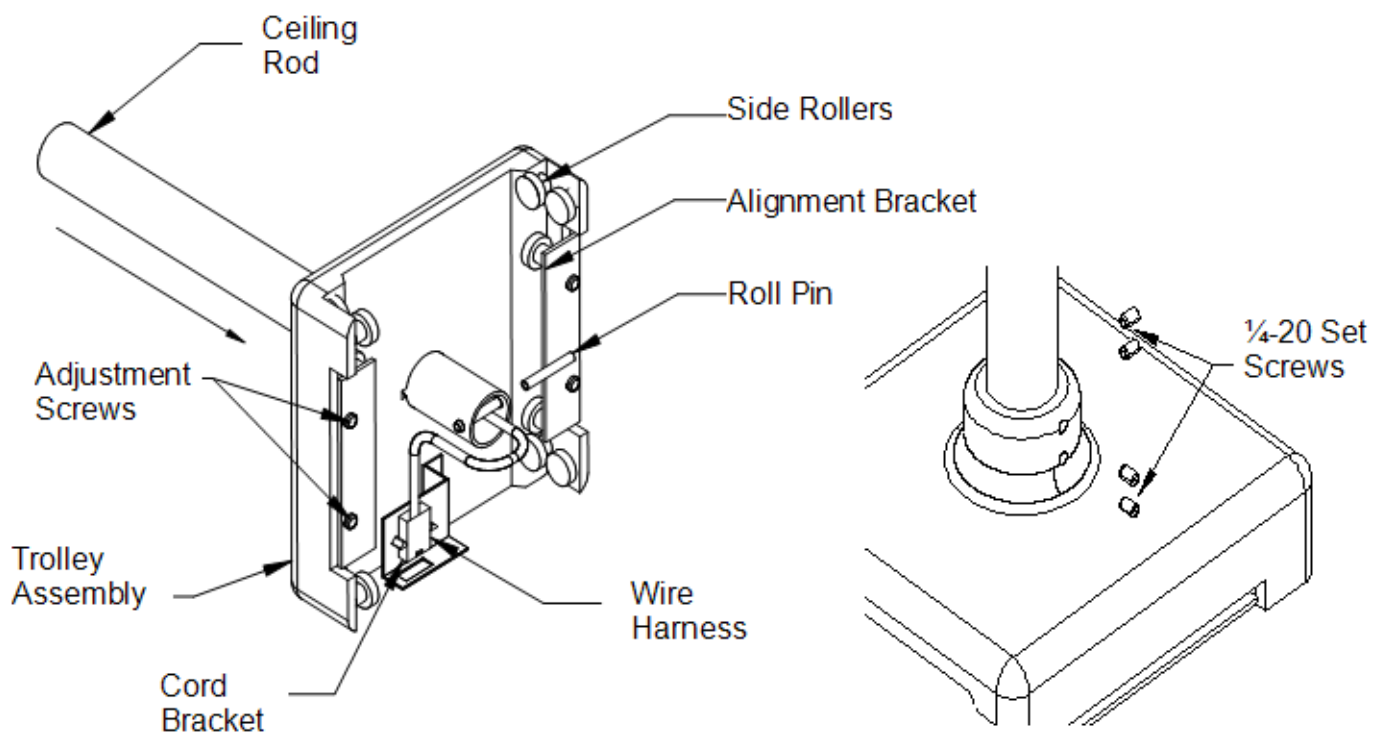
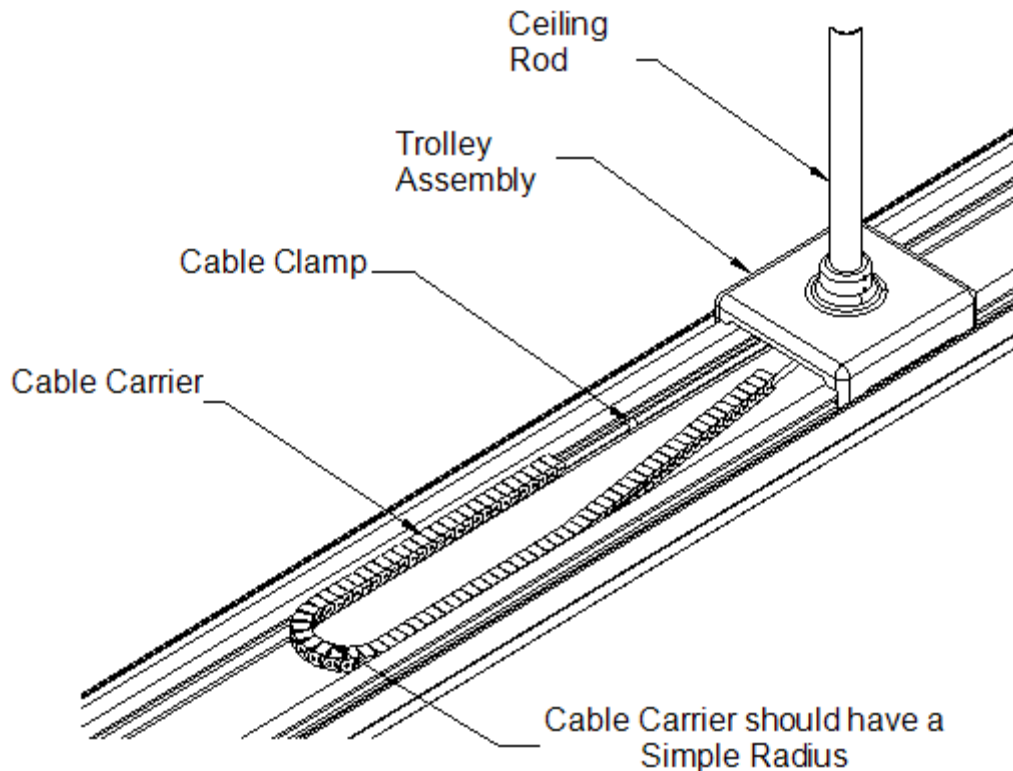

Figure 31. Ceiling Rod and Roll Pin Installation
Figure 32. Power Cord Placement
- Remove the ¼" by 2" roll pin taped down in the trolley assembly. Insert the pin into the ceiling rod end that has one hole in both walls. The pin should extend the same amount on both sides of the ceiling rod. Install the ceiling rod into the trolley and allow the roll pin to rest in the indentation in the trolley. See Figure 31. Ceiling Rod and Roll Pin Installation.
- Slide the trolley with the installed ceiling rod back onto the track. The cord-mounting bracket in the trolley should be positioned so it is next to the mating Molex connector on the power cord. Insure that the trolley rolls freely along the track. If adjustment is necessary loosen the adjustment screws and position the side rollers against the base track extrusion as shown on "Figure 31. Ceiling Rod and Roll Pin Installation". Retighten the screws.
- Ensure the cable carrier chain lays flat within the track. Attach the Molex connector to the mating connector on the trolley assembly. See “Figure 31. Ceiling Rod and Roll Pin Installation” and “Figure 32. Power Cord Placement”